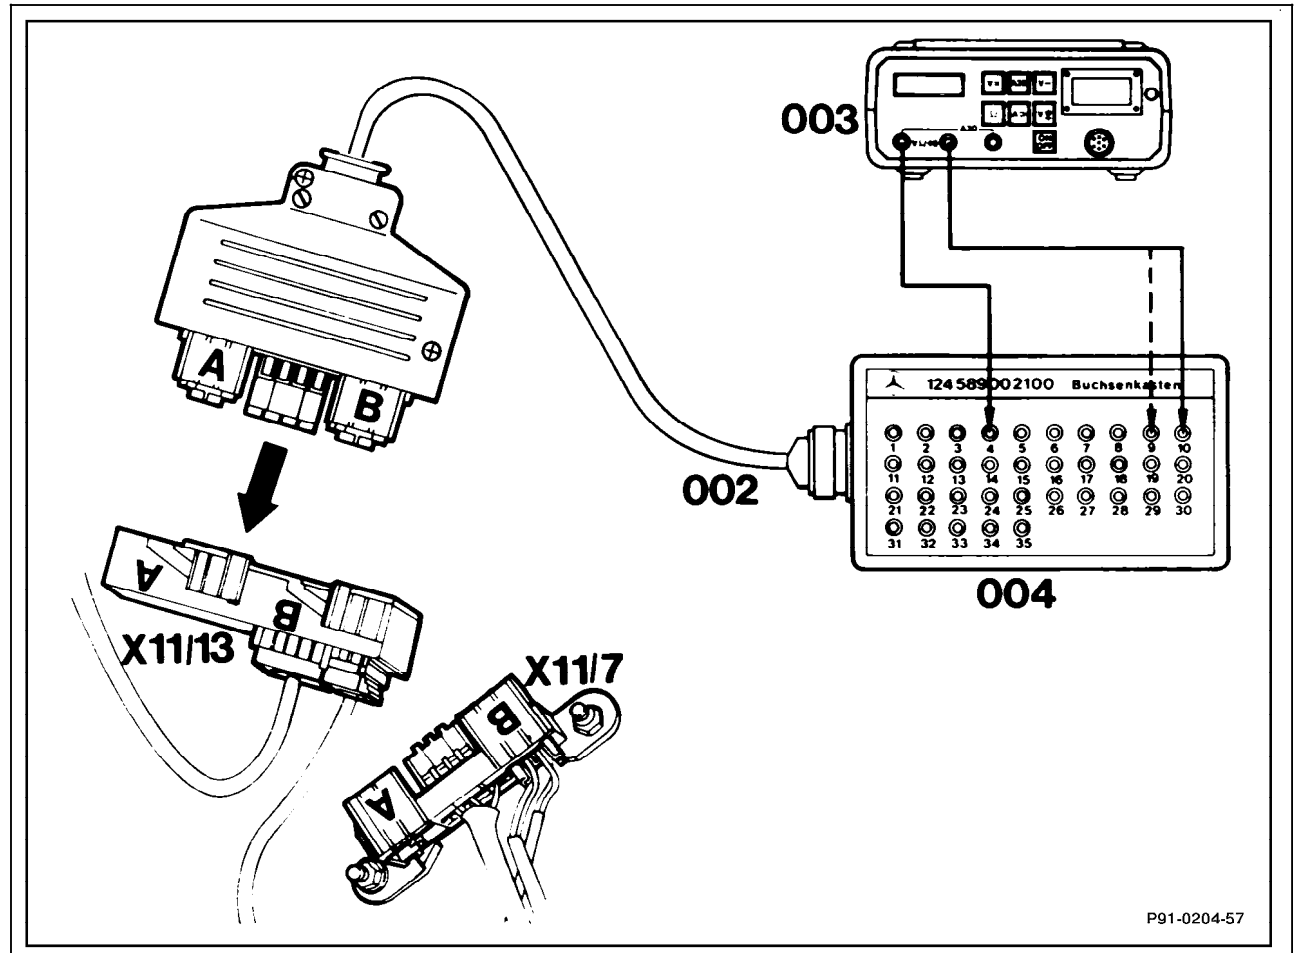

Figure 1
5. Connect socket box and test cable according to connection diagram (Figure 1).